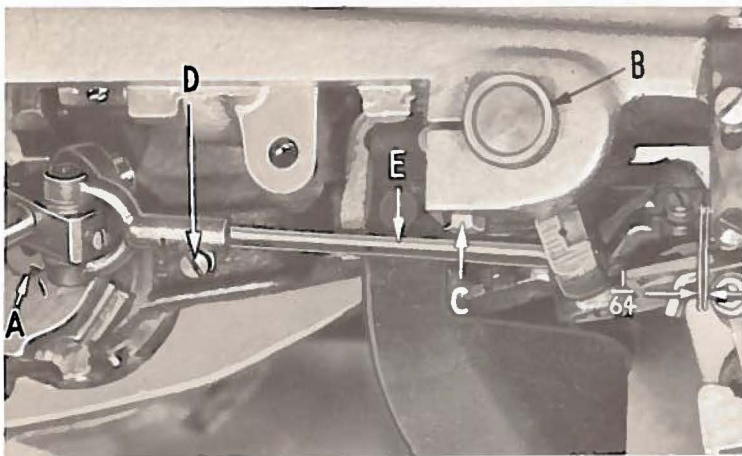

Fig. 5
Insert the looper in its holder so that the flat on its shank corresponds with flat on holder and so that there is $1/64$ inch space between looper seat and holder (Fig. 5).
In the left end of the main shaft is a "V" groove, and on the looper crank, there is a timing line (A, Fig. 5).
The looper adjusting sleeve (B, Fig. 5) positions the looper laterally, and also provides a limited amount of vertical or height adjustment. Lateral adjustment is secured by loosening the clamp screw (C) and pulling the adjusting sleeve in or out. Vertical or height adjustment is secured by turning the sleeve.